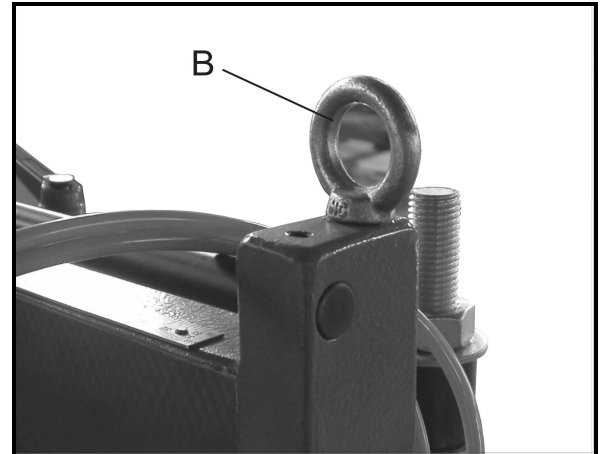

Figure 2
2. Place lifting straps through the two eyebolts at the top of the machine (B, Figure 2). Using a forklift or hoist, lift the machine off the pallet and into its desired location. The Dovetailer should be located in a dry area with sufficient lighting. Leave plenty of space around the machine for operations and routine maintenance work.